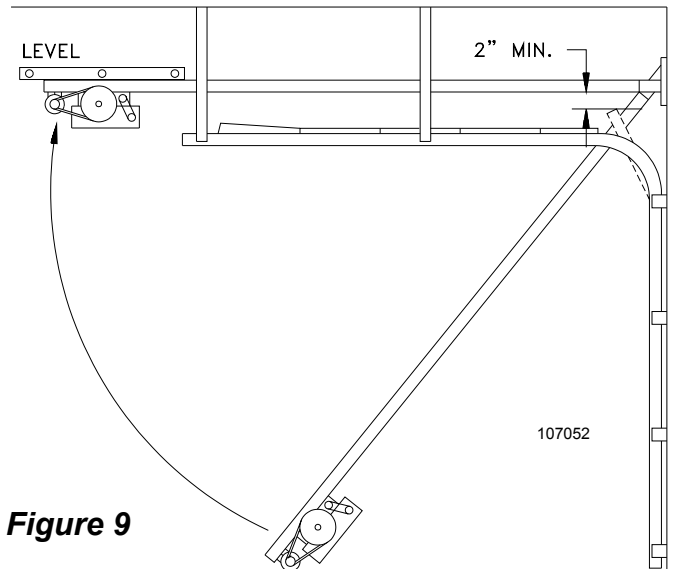

Figure 9
6) Swing the operator to a horizontal position above the door guide rails (high enough to raise the door) and temporarily secure by suspending from the ceiling with a suitable rope or chain or support from the floor to the operator. Now open the garage door slowly, being careful not to dislodge the temporary support. Lower the operator until it is level. Make sure the operator is aligned with the center of the door and the bottom of the rail is at least 2" above the high arc of the door. See Figure 9.